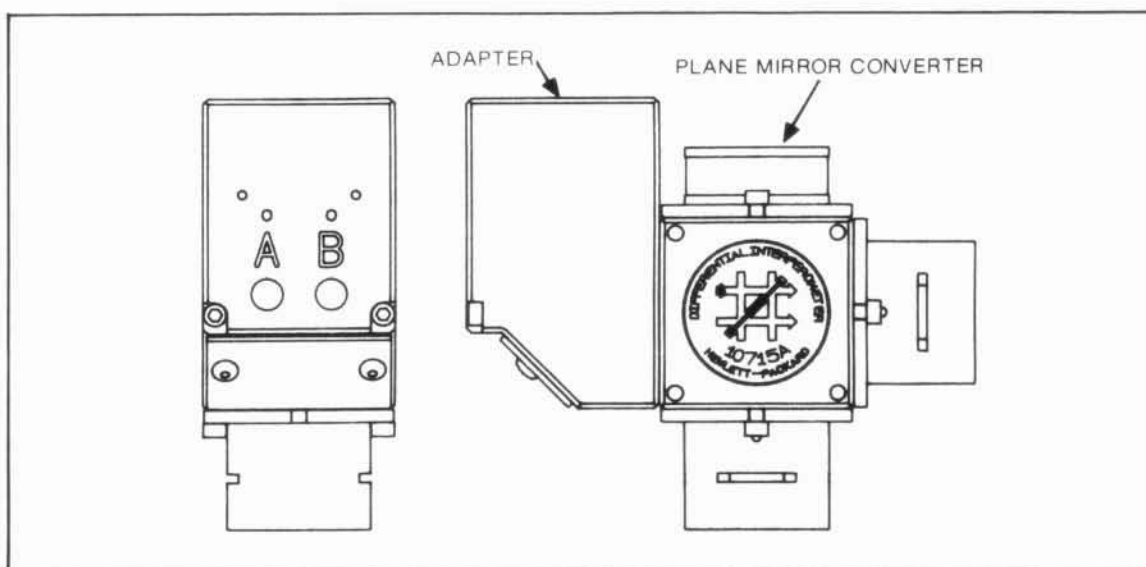

Figure 5-5. HP 10715A Option 001 In Turned Configuration
- TURNED CONFIGURATION 10715A (Option 001 (Figure 5-5)